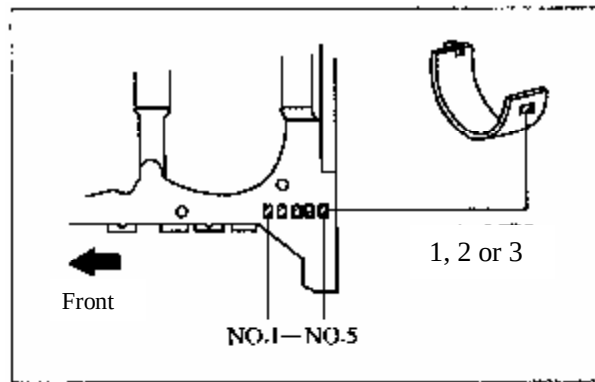

Figure 3-27 Matching of Main Bearing shell
3.2.9 The main bearing hole dimensions fall into three groups. The grouping numbers for first to fifth holes are marked on rear end of bottom plane of cylinder block. The main bearing shells also fall into three groups. During assembly, select the main bearing shell with the same grouping number as main bearing hole, and install it into corresponding main bearing hole (see Figure 3-27).